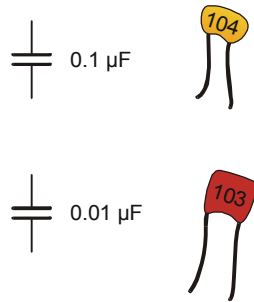

Figure 5-10
- (1) Capacitor – 0.1 μF shown in Figure 5-10
- (1) Capacitor – 0.01 μF , also shown in Figure 5-10
- (2) Jumper wires